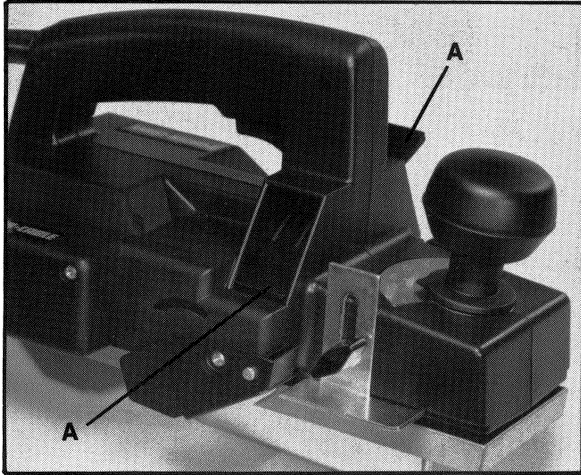

Fig. 3
The chip deflector (A) Fig. 3, may be set to deflect the chips to either side of the plane. To deflect chips to the right side of plane, push the left end of the deflector down. To deflect chips to the left side of the plane, push the right end of the deflector down.